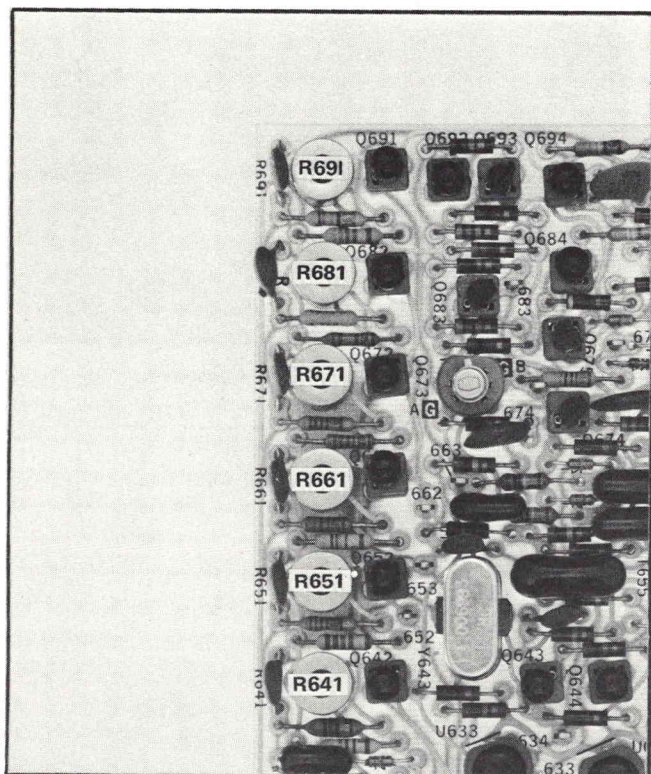

Fig. 5-42. Line Timing board adjustment locations.
e. Using Fig. 5-41B and Fig. 5-42 as guides, CHECK and/or ADJUST all Line Timing listed in Table 5-5.
s. ADJUST—R681 (see Fig. 5-42) until the positive and negative portions of the display are equal.